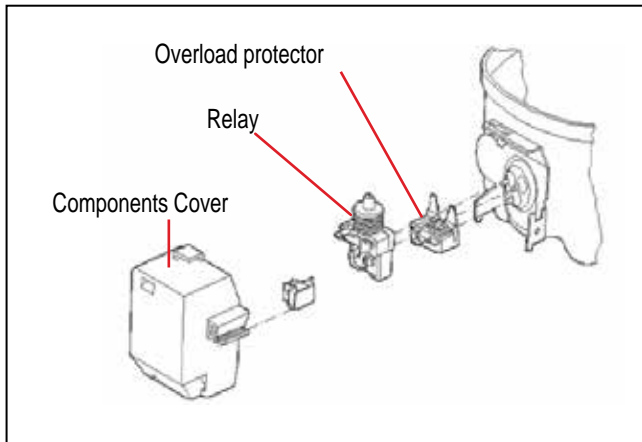

Fig 8-8-1 (Comp Model: FFI Compressor)
1. Open compressor's electrical components housing and remove the lead wire coupled into the power motor and other parts. This is connected to the relay and overload protector (Fig 8-8-1 & 8-8-2).